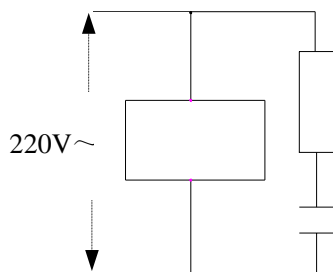
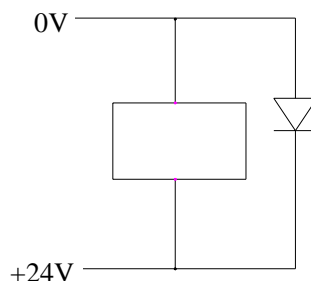
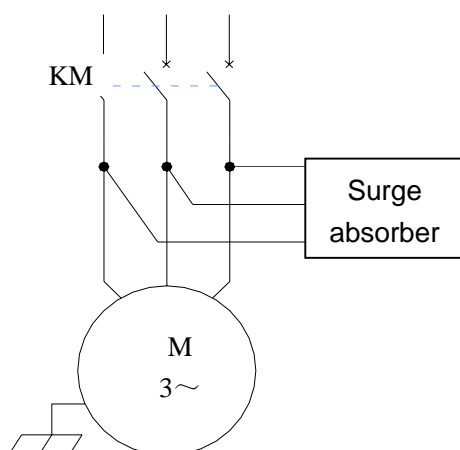

Fig. 1-4
Fig. 1-5
Fig. 1-6
3. To suppress interference: connect parallel RC circuit at both ends of AC coil (Fig. 1-4), RC circuit should approach to inductive loading as close as possible; reversely connect parallel freewheeling diode at both ends of DC coil (Fig. 1-5); connect parallel surge absorber at the ends of AC motor coil (Fig. 1-6);